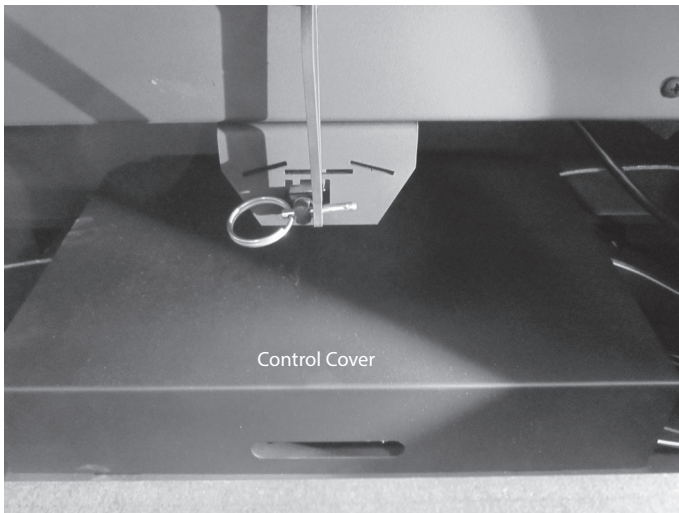

Figure 4.14 Remove Control Cover
- Lift the control cover up and out to expose the control board. See Figure 4.14.